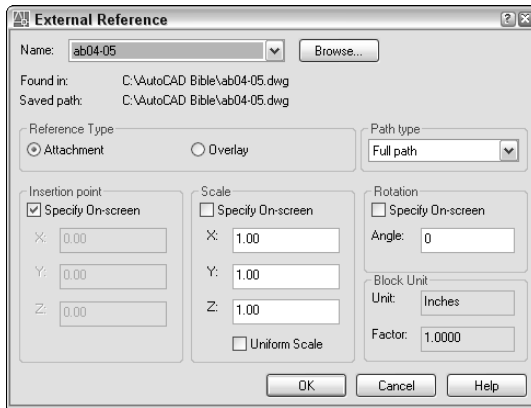

Figure 19-1: The External Reference dialog box.
2. Choose the file you want to attach and click Open. The External Reference dialog box (shown in Figure 19-1) opens. This dialog box displays the file that you chose, along with its path (location).